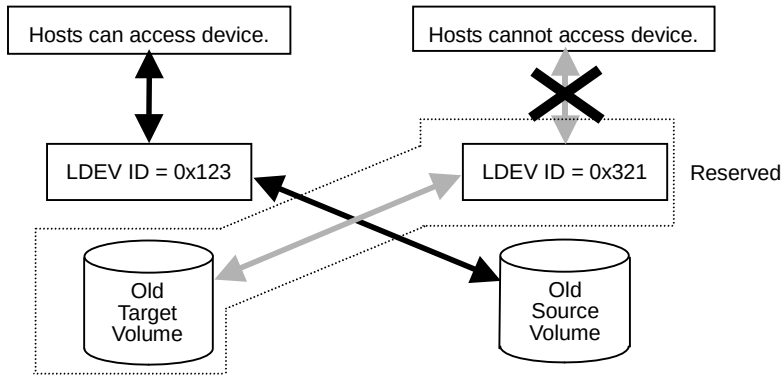

Figure 3.8 Data Flow after a Volume Migration Operation
2. Transfer host access to the target volume to complete the migration (see Figure 3.8).